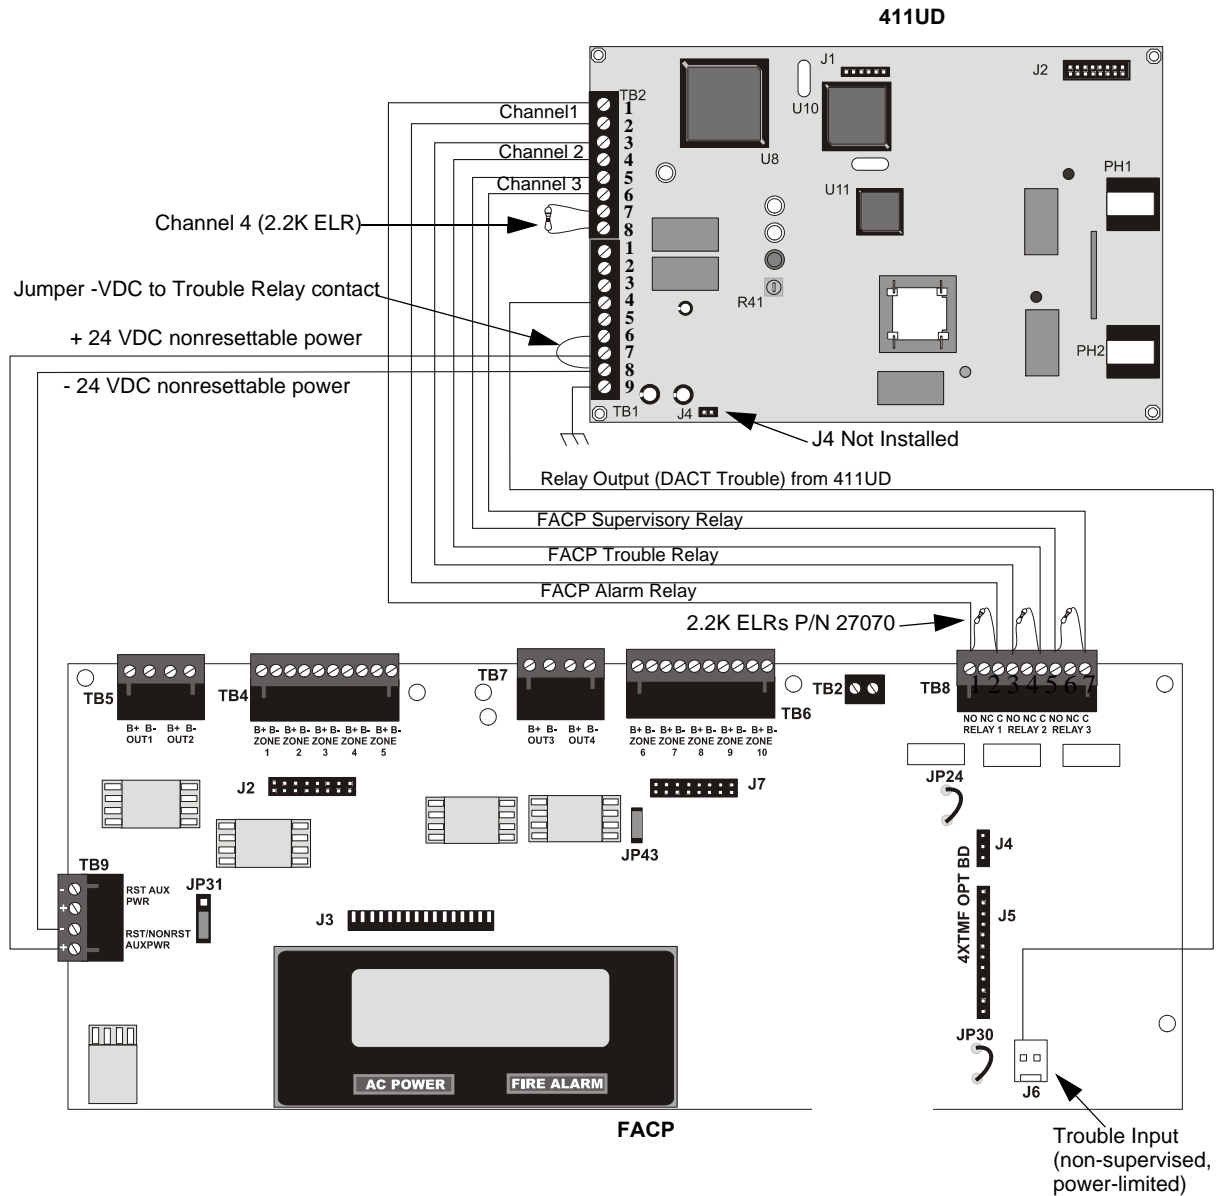

Figure B.1 MS-5UD/MS-10UD FACP Connection to 411UD
411UD may be installed as illustrated in Figure B.1, “MS-5UD/MS-10UD FACP Connection to 411UD,” on page 128.
5. Any zone of the 411UD can be wired to function as alarm, trouble or supervisory. In Figure B.1 on page 128, Channel 1/Zone 1 is wired to the control panel's alarm relay, Channel 2/Zone 2 is wired to the control panel's trouble relay and Channel 3/Zone 3 is wired to the control panel's supervisory relay